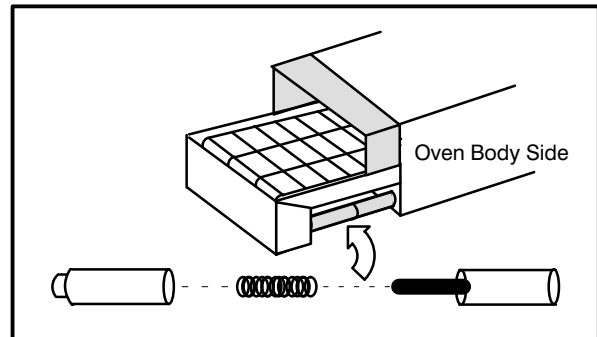

FIGURE 5
1. Compress the spring by hand to engage the tensioner pin with the hole in the oven's body side. (Refer to FIGURE 5).